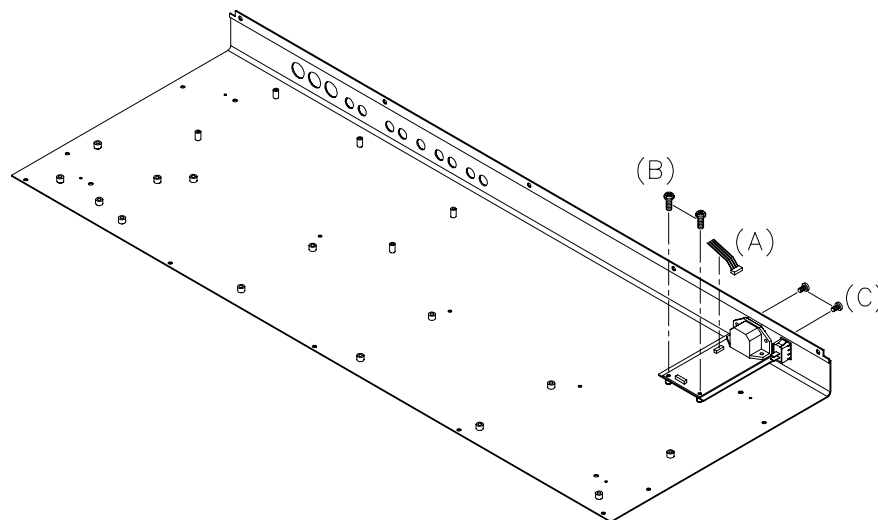

Fig.4
4. REMOVAL ASSY PCB POWER SUPPLY BB01 (Fig.4)
- (A) REMOVE 1 PC OF CABLE CONNECTOR FROM PCB TRANSFORMER
- (B) REMOVE THE 2 PCS SCREWS FROM PCB TRANSFORMER
- (C) REMOVE THE 2 PCS SCREWS FROM REAR PANEL